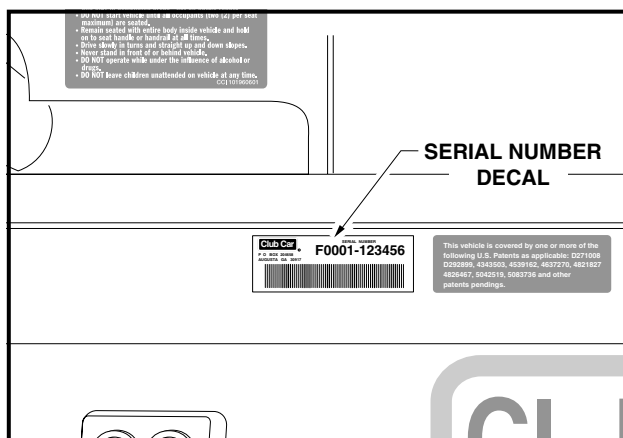
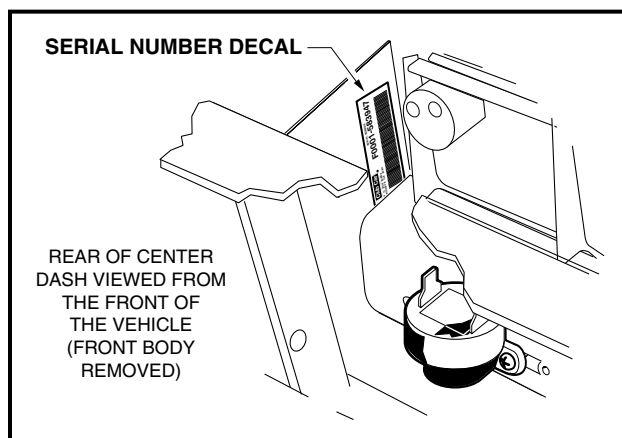

Figure 3-1 Serial Number Decal
Figure 3-2 Serial Number Decal Behind Dash
The serial number of the vehicle is printed on a bar code decal mounted on the frame directly above the accelerator pedal (Example: F0001-123456 for Electric or FG0001-123456 for Gasoline) **(Figure 3-1, Page 3-1)**. There is a second serial number decal mounted on the front body frame behind the center dash panel. The center dash panel must be removed to view this number **(Figure 3-2, Page 3-1)**.
- ALWAYS HAVE THE VEHICLE SERIAL NUMBER AT HAND WHEN ORDERING PARTS OR MAKING INQUIRIES **(FIGURE 3-1, PAGE 3-1)**.